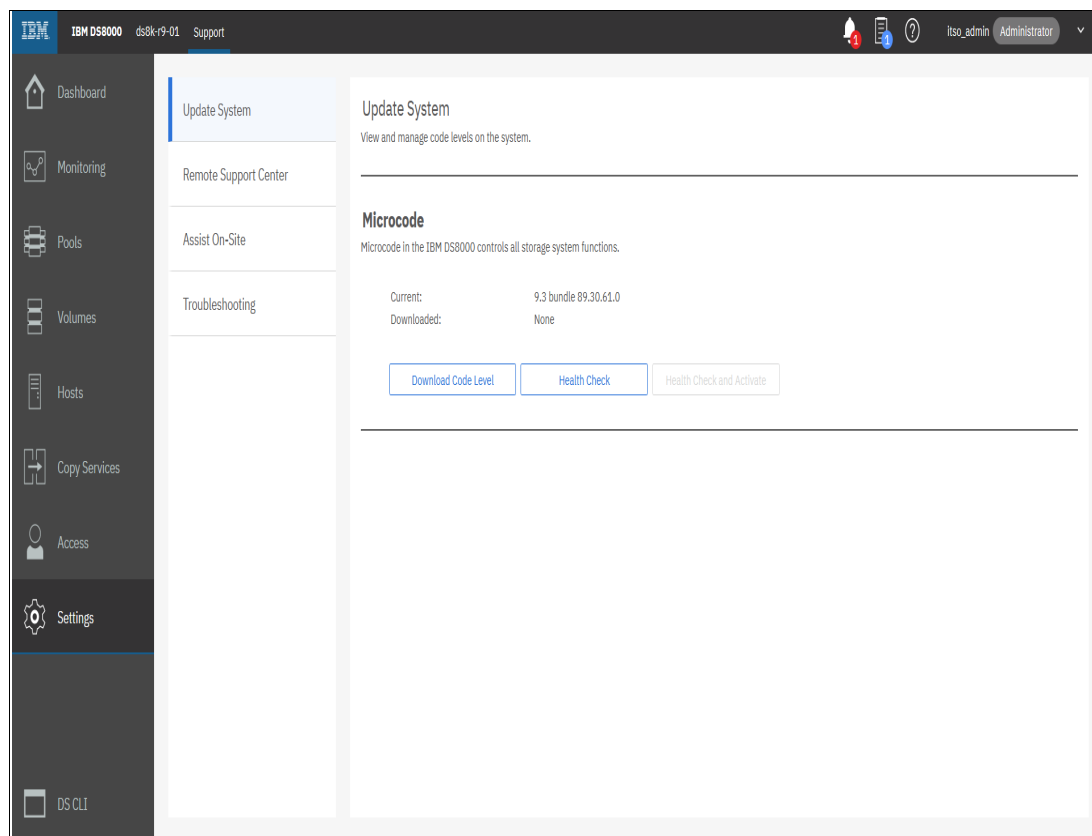
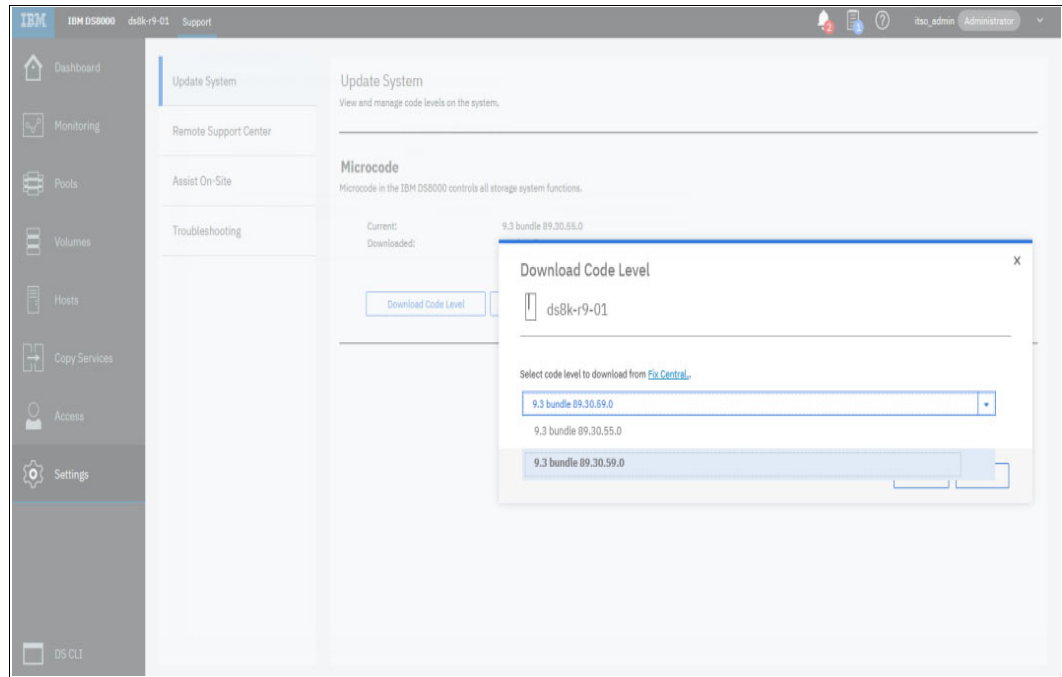

Figure 11-6 Storage Manager GUI: Update System menu
Figure 11-7 Microcode level query
A new menu option is available under **Settings** → **Support** → **Update System**, as shown in Figure 11-6.
Figure 11-6 shows the Update System menu when there are no code bundles downloaded to the DS8000 storage system. The Health Check and Activate option is enabled after the download of the microcode completes.
1. To download the microcode, select **Download Code Level** from the window that is shown Figure 11-6, which immediately begins a microcode bundle query of IBM Fix Central for a list of codes that the customer can select. This query displays only higher or equal microcode levels compared to the currently installed level on the DS8000 system. After the query completes, a new window opens in the Storage Manager GUI, as shown in Figure 11-7 on page 415.